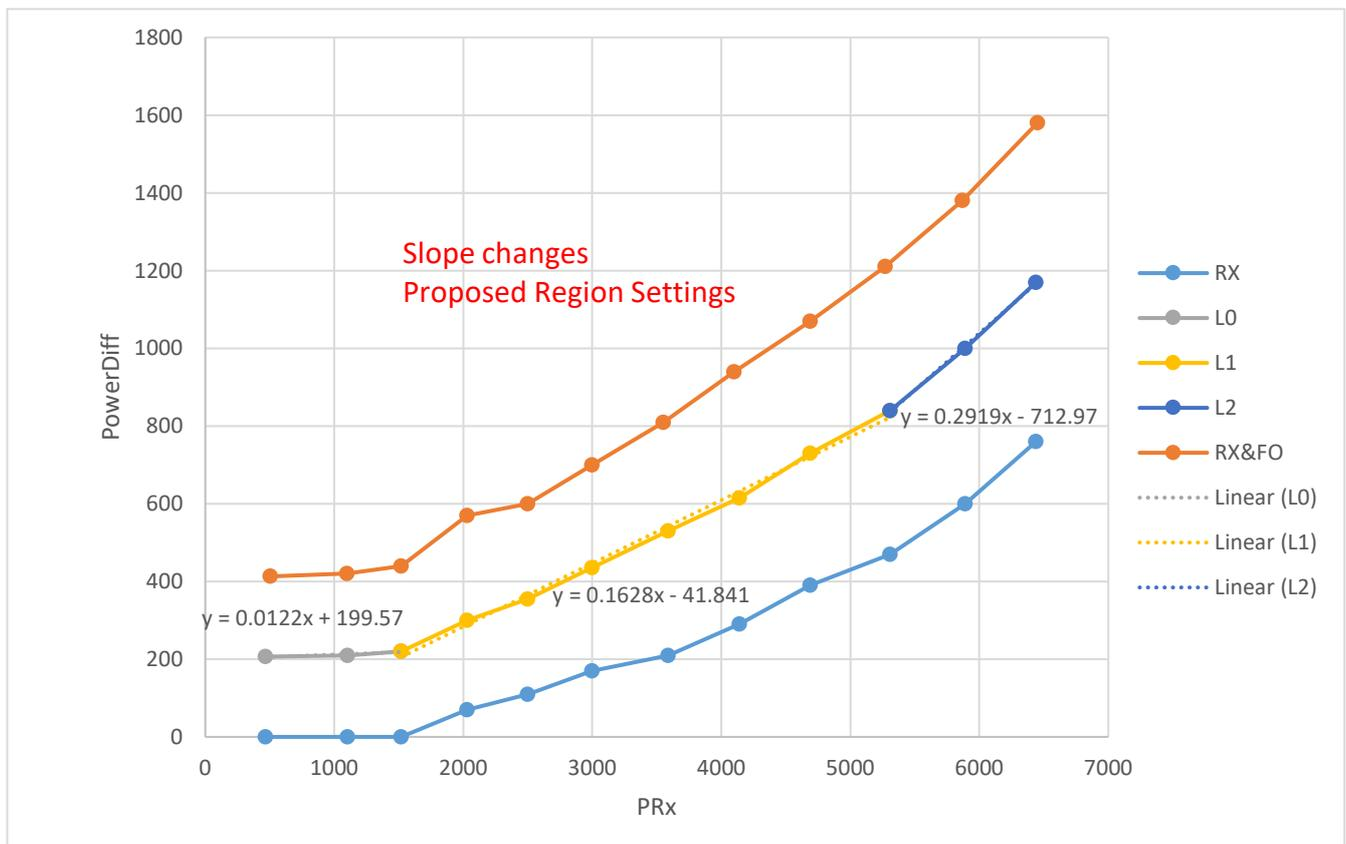

Figure 2. Measurements Needed to Tune FOD with P9261
- Draw “ $\text{PowerDiff}_{\text{BPP_RX}}$ vs $\text{PR}_{\text{BPP_RX}}$ ”, “ $\text{PowerDiff}_{\text{BPP_RX_and_FO}}$ vs $\text{PR}_{\text{BPP_RX_and_FO}}$ ” and “Threshold vs $\text{PR}_{\text{BPP_RX}}$ ” in the same chart. From the chart below (see Figure 2), we can see slope changes, then we can get the Region Control setting: the 3rd and 10th point’s PR_x will be used as the “FOD Power L1” and “FOD Power L2”.